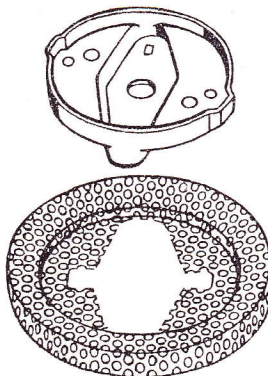

Fig. 2
6. Screen can then be removed (Fig. 2).